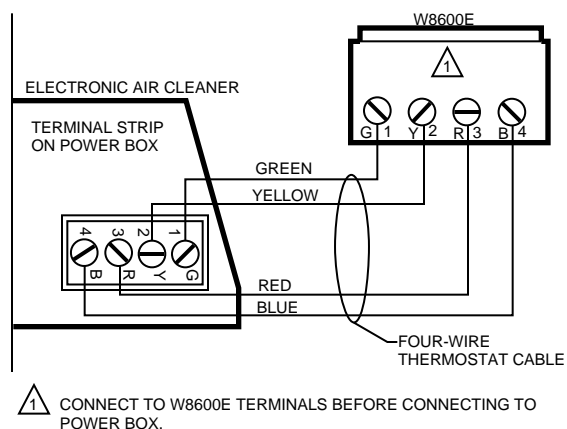

Fig. 22. Wiring W8600E to air cleaner power box terminal strip.
- ❑ Strip 1/4 in. of insulation from the ends of the wires and connect them (1 to 1, 2 to 2, 3 to 3, 4 to 4) as shown in Fig. 22.